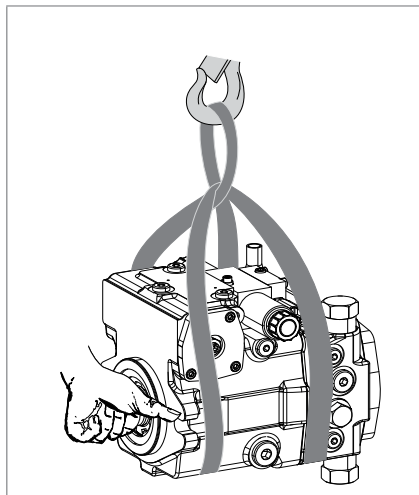

Fig. 6: Transporting with lifting strap
- ▶ Place the lifting strap around the axial piston unit in such a way that it does not pass over assembled parts (e.g., valves, piping) and that the axial piston unit is not suspended from assembled parts (see Fig. 6).